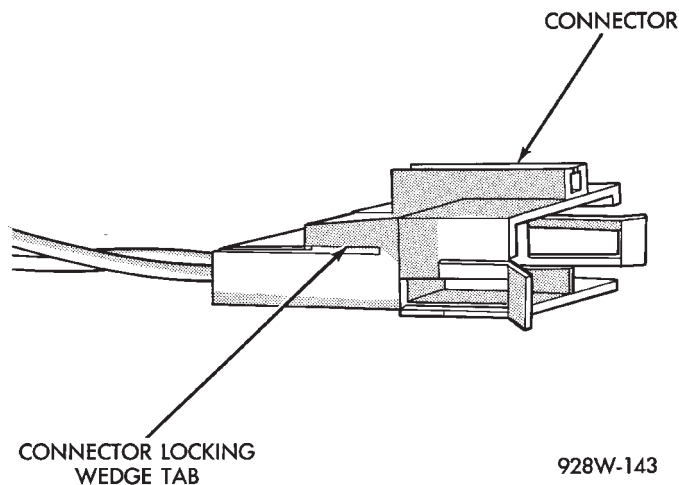

Fig. 21 Connector Locking Wedge Tab (Typical)
(1) Disconnect battery.
(2) Disconnect the connector being repaired from its mating half. Remove connector locking wedge, if required (Fig. 21).
(3) Remove connector locking wedge, if required (Fig. 21).